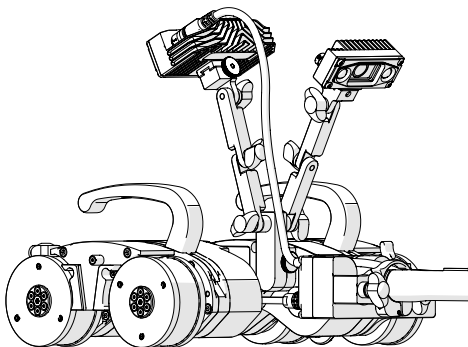

Fig. 35 - Satellite camera attached to dual camera bracket
2. Adjust the angle of the satellite camera (Fig. 35) as required (see “Attaching Camera” on page 17).